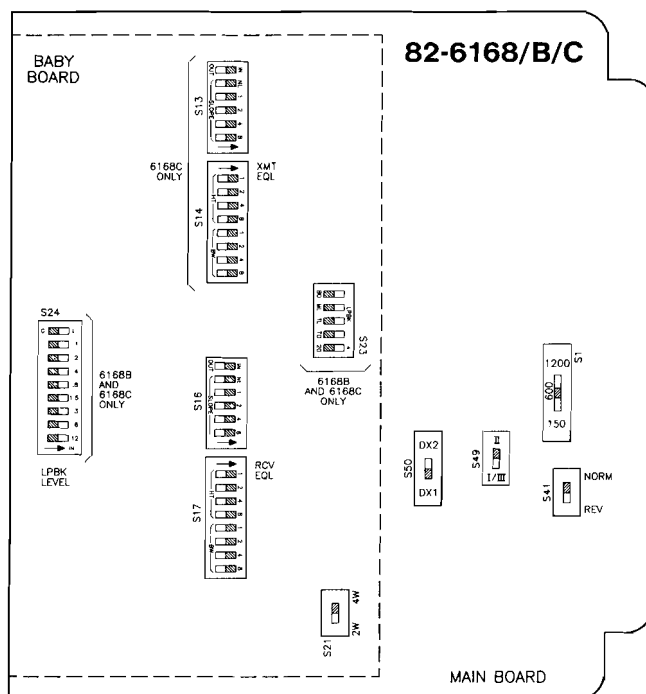

figure 12. 6168/X option switch locations
3.06 Several option switches must be set before the 6168/X can be placed into service. Locations of these switches and of certain alignment switches on the module's printed circuit board are shown in figure 12. Table 6 summarizes all switch options and provides a convenient **checklist** that can be filled out either prior to installation for prescription optioning or during installation to serve as a record for later reference. Refer to figure 12 and table 6, and set each option switch on the 6168/X as required.